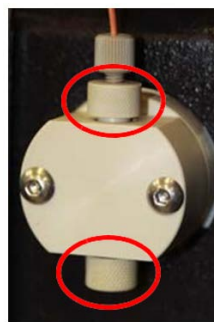

Figure 5-12 Check valve holder
1. Remove the inlet and outlet lines from the check valve holders (Figure 5-12), and then remove the check valve holders. Pliers may be needed to remove the holders.